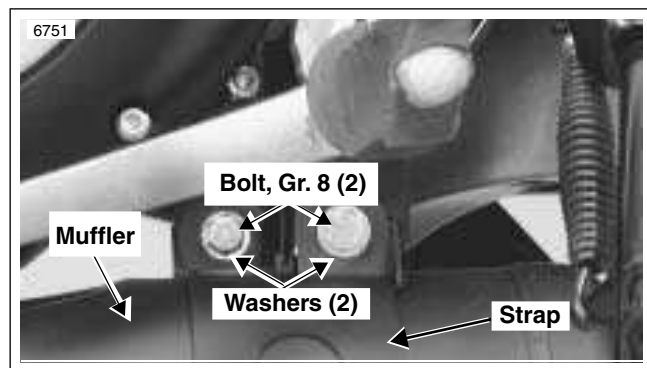

Figure 2-104. Rear Muffler Mounts
2. See Figure 2-104. Remove two bolts, washers and locknuts securing rear of muffler to Z-bracket.
6. See Figure 2-104. Position muffler and install to rear mounting support and weldnuts in rear muffler straps with two sets of bolts, washers and locknuts. Tighten bolts to 22-24 ft-lbs (30-33 Nm).